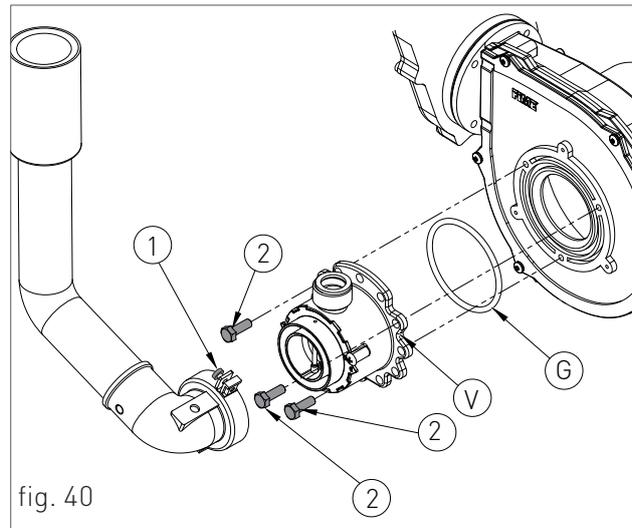
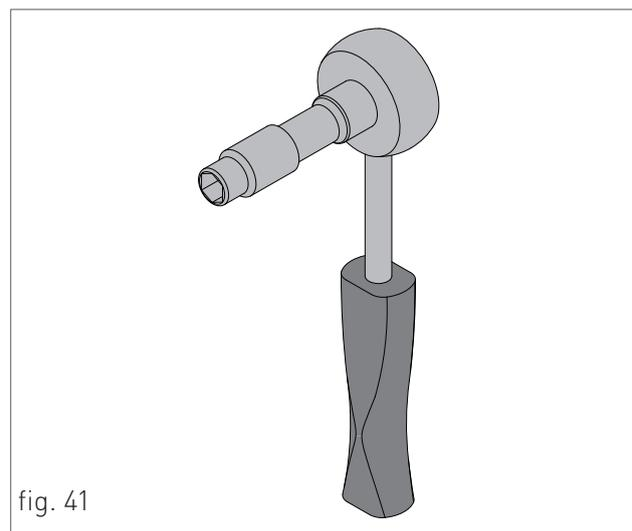

fig. 40
fig. 41
- › loosen the two screws '1' [fig. 40] from the fastening clamp, and remove the air suction tube;
- › unscrew the three fastening screws '2' [fig. 40] of the venturi 'V' [fig. 40] using a 10 key, as shown in figure 41;
- › remount the components following the demounting operations in reverse making sure that gasket 'G' is re-assembled as shown in fig. 40;